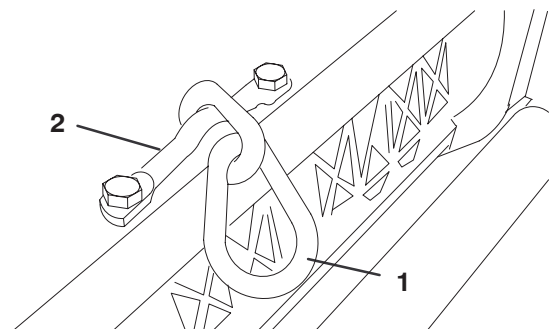

Figure 12
2. Install the chain link (Fig. 12) to the top of the cutting unit with the mounting bracket and (2) capscrews. Torque the capscrews to 25–30 ft-lbs. (34–40 N·m). The large end of the link is to hook onto the traction unit suspension.